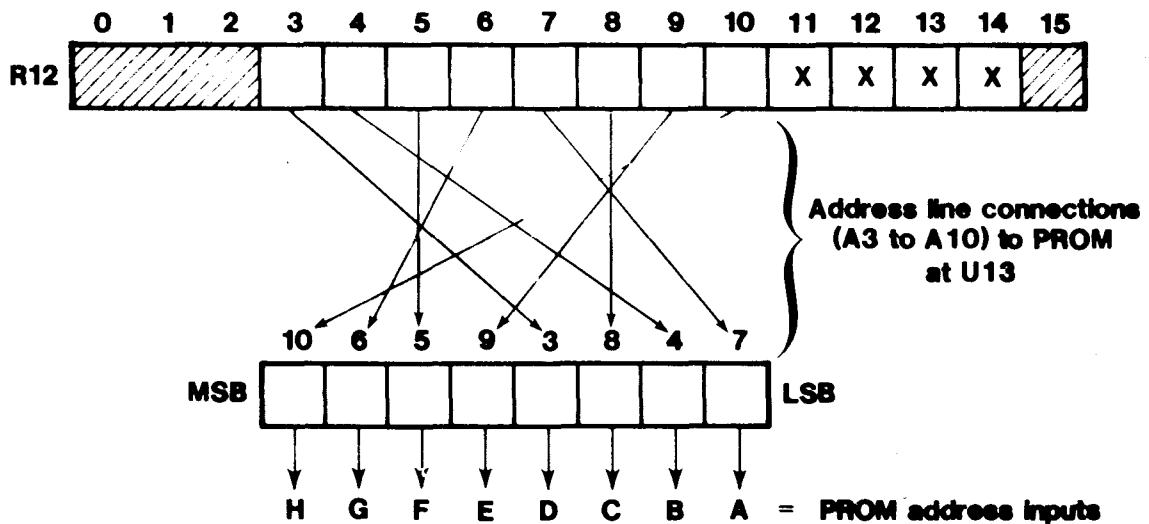

FIGURE E-4. INTERPRETING HARDWARE BASE ADDRESS AS ADDRESS INPUT TO PROM AT U13
The arrangement of bus address lines to PROM address inputs is not straightforward; that is, the most significant bus address line A3.B is not connected to the most significant PROM address input line H. Because of this, the user must take care in interpreting address line values corresponding to the internal PROM address. Figure E-4 shows the relationship of address line to PROM address inputs.
- 2) Insert the hardware base address into the 12 blanks of R12 as shown at the top of Figure E-4. Note that only the values in R12 bits 3 to 10 are relevant since only these will be decoded by the PROM address input lines. Do not enter values for R12 bits 0-3 or 11-15.